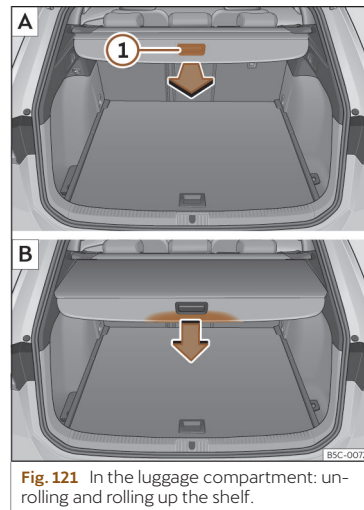

Fig. 121 In the luggage compartment: unrolling and rolling up the shelf.
- Pull evenly on the rear shelf using its handle >>> **Fig. 121** ① **A** in a backwards direction until it audibly clicks into place.
- Press on the handle of the rear shelf in the direction of the arrow to release it >>> **Fig. 121** **B**.